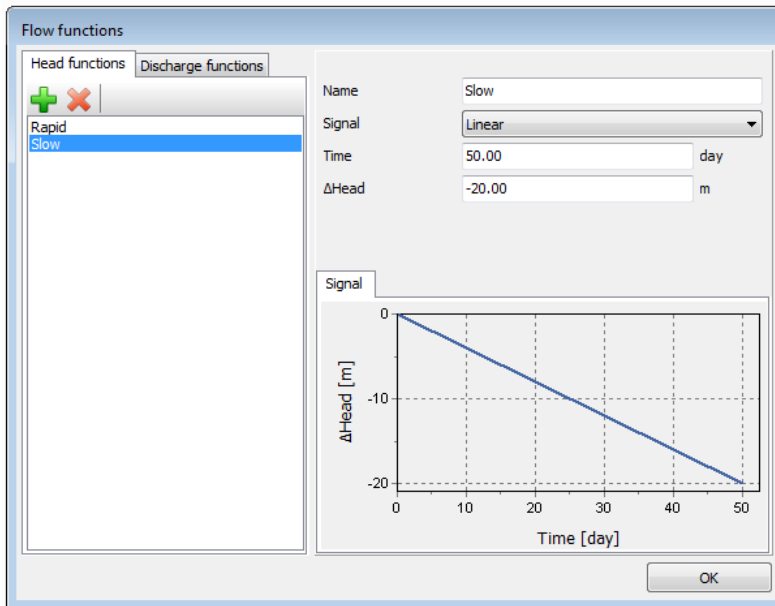

Figure 6.8 The flow function for the slow drawdown case
- Specify a time interval of 50 days. The window displaying the defined function is shown in Figure 6.8.